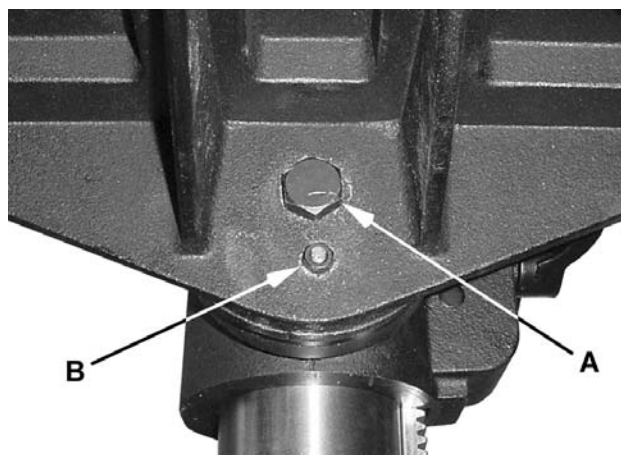

Figure 13
To tilt the table (refer to Figures 13 and 14):
1. Using a 15/16" wrench, loosen the hex cap screw (A, Figure 13) located under the table, about one turn.